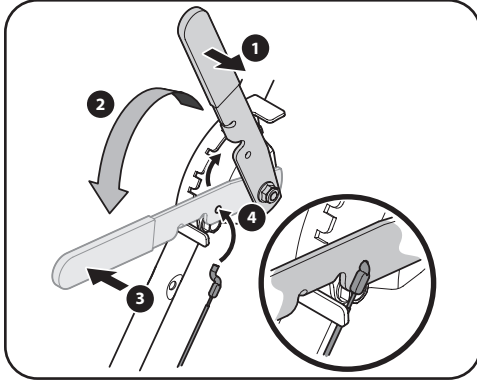

Figure 2-4
4. Hook the Z end of the depth control cable into the hole on the depth control lever as shown in Figure 2-4.